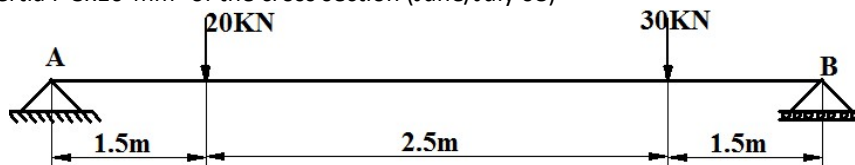

Figure 43
12. A beam of length 4m is simply supported at the ends and carries two concentrated loads of 20 kN and 30kN at a distance 1.5m and 2.5m from left end. Refer below **Figure 43**. Find the deflection at mid span. Take  $E=200 \text{ GPa}$  and moment of inertia  $I=3 \times 10^8 \text{ mm}^4$  of the cross section (June/July 08)